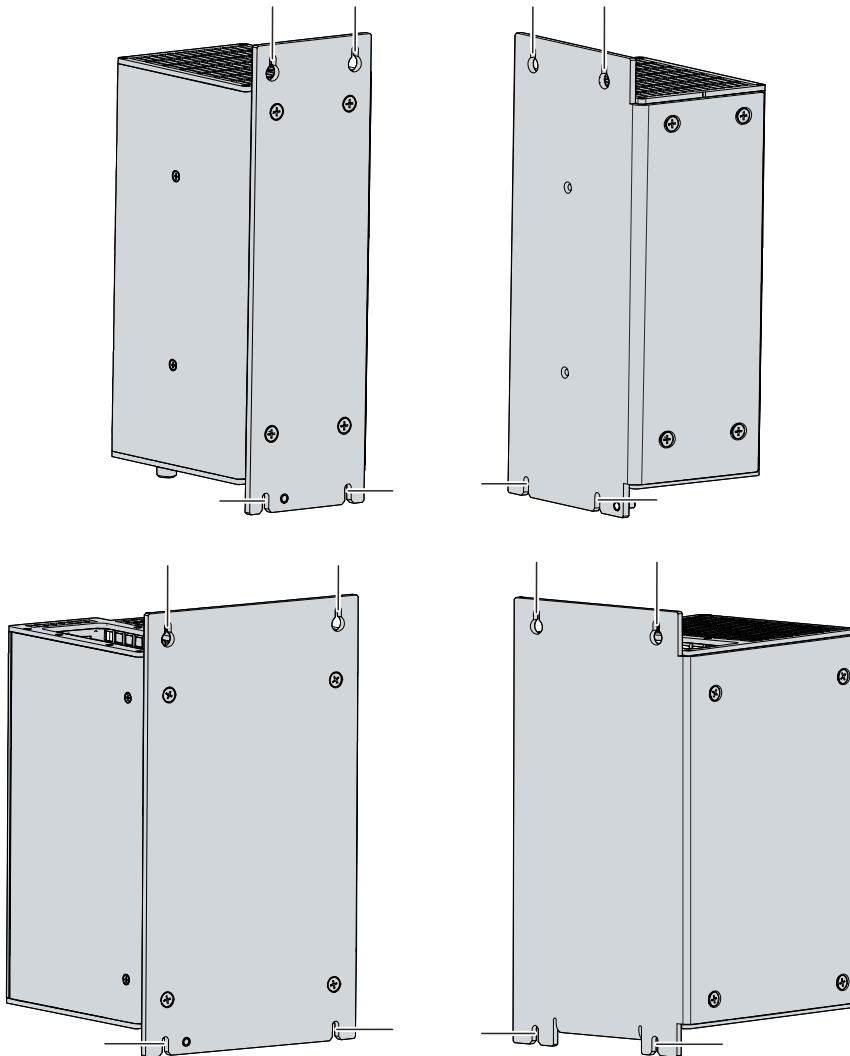

Fig. 17: C6930_Control cabinet installation
2. Hang the PC on the screws at the marked places on the mounting plate (see fig. 17).